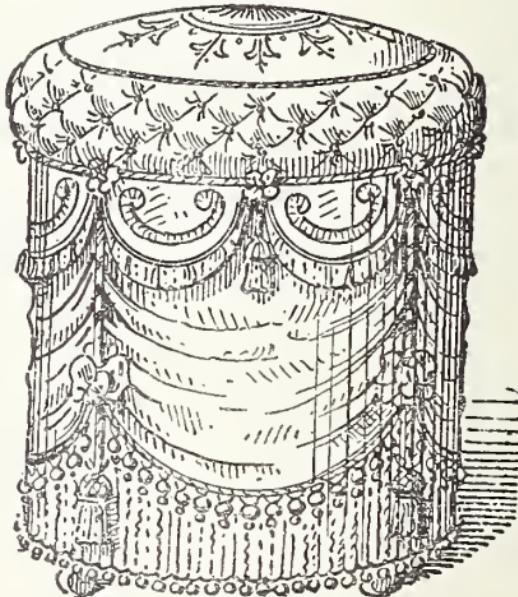
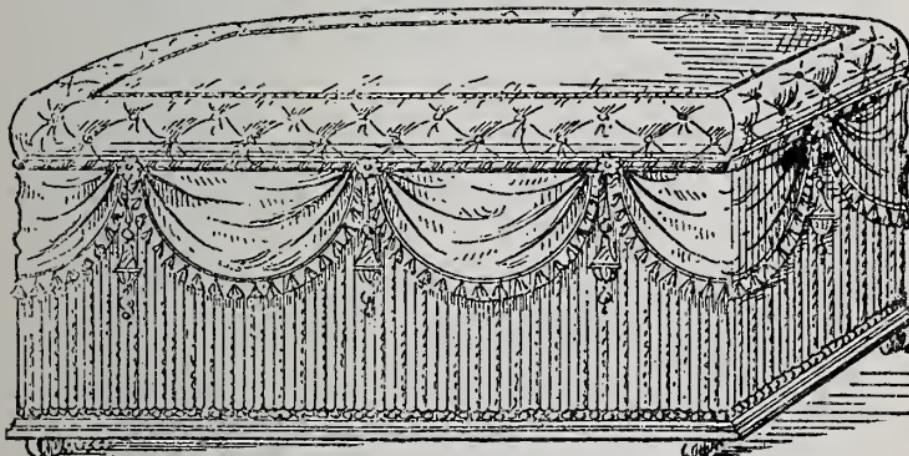

FIG. 21.
FIG. 22.
**Circular Ottoman.**—The top part of the box of the ottoman shown in Fig. 21 should be made of hard wood, not less than one-inch stuff, framed together so as to admit of the upholsterer's needle going through when buttoning the border. In the top five 6-inch springs could be placed. Tie
**Box Ottoman.**—In Fig. 22 we show a square or oblong box ottoman to be upholstered in any two harmonizing colors, or in self-colors. The top of this should be of birch, or any hard wood, as soft wood will twist with the strain. Finish the top of this in the same way as described for circular ottoman (Fig. 21); but, the sides being square, the fullness will be the same each way in the buttoned border, that is,  $1\frac{1}{2}$  inches. The festoons should be cut separately, tacked to the box, and finished with a cord heading. The bottom should screw off, so as to enable the workman to make a good job of the lining. When completed, the ottoman should not stand more than 18 inches high.
The border will be buttoned according to instructions given for circular ottoman (Fig. 21), and finished as shown in the present illustration. The ottoman being square,  $1\frac{1}{2}$  inches